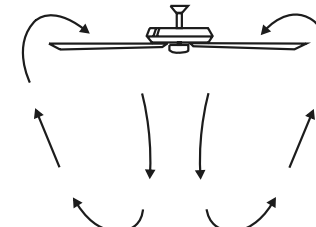

Fig. 25
**Warm weather** - When the fan is rotating **“FORWARD”** (fan rotates counterclockwise) the temperature of the room becomes cooler. A downward airflow creates a cooling effect as shown in **(Fig. 25)**. This allows you to set your air conditioner on a warmer setting without affecting your comfort.